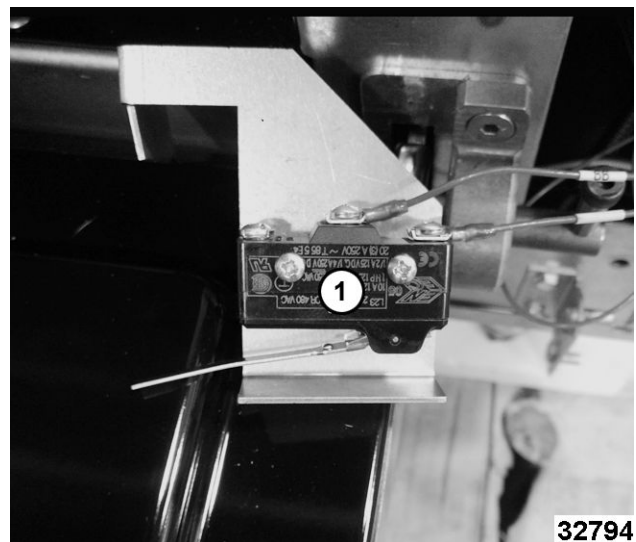

Fig. 75
4. Note and disconnect microswitch (1, Fig. 75) wiring.